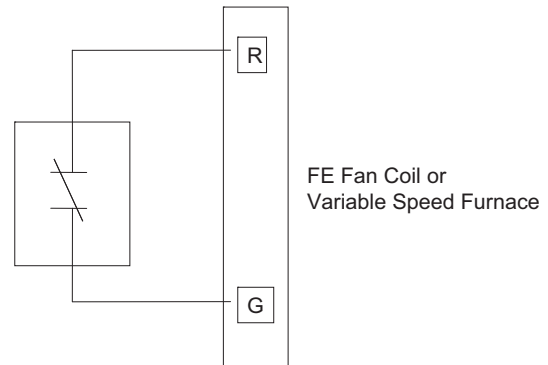

Fig. 24 - G Input Wiring for System Shutdown with Evolution™ Control (Contact type selectable; Normally Closed (default) or Normally Open)
- SHUTDOWN - shuts off fan and equipment when initiated. This function is not intended for emergency fire shutdown. It may be activated by a dry contact from an external device such as a float switch or a relay. User Interface displays SYSTEM MALFUNCTION on screen and registers G terminal shutdown event in Last 10 System Events. See Fig. 24.
- SHUTDOWN - shuts off fan and equipment when initiated. This function is not intended for emergency fire shutdown. It may be activated by a dry contact from an external device such as a float switch or a relay. User selects whether the contact is NC - normally closed (default) or NO - normally open. User Interface displays SYSTEM MALFUNCTION on screen and registers G terminal shutdown event in Last 10 System Events. See Fig. 24.